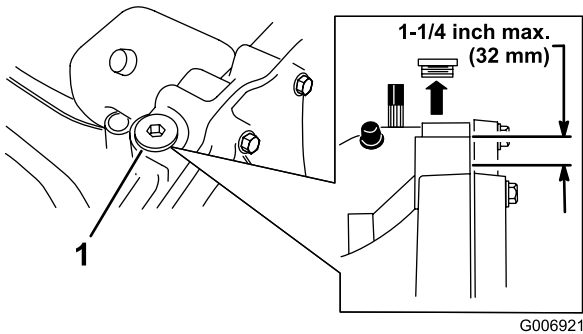

Figure 29
4. Clean around the fill plug (Figure 29) so that dirt cannot fall into the reservoir if you need to add fluid.
Note: The level should be a maximum of 1-1/4 inch (32 mm) below the top of the fill port (Figure 29). Add fluid if necessary.